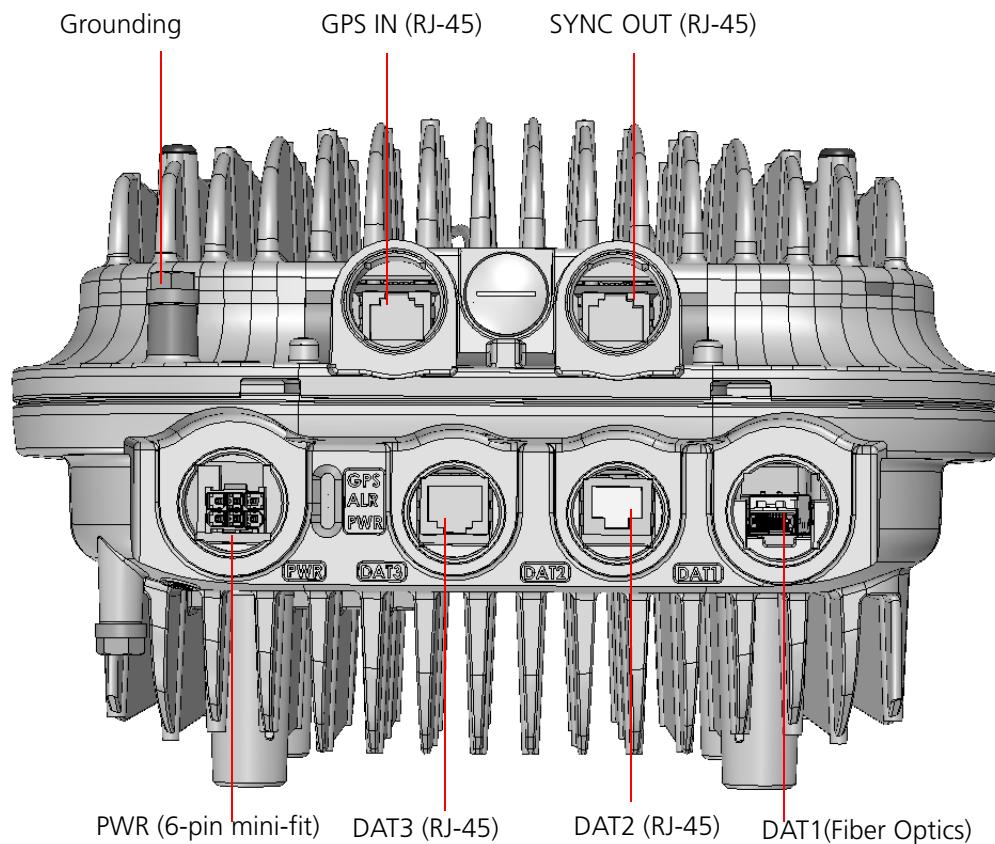

Figure 2-21: BreezeCOMPACT Connectors
- 8 Connect the other end of the data cable to the GPS IN connector located on the BTS panel (see Figure 2-21).
When grounding the unit, use the GND (ground) screw on the unit as a grounding point. The Grounding screw (marked ) is located on the connectors panel of the unit (see Figure 2-21).